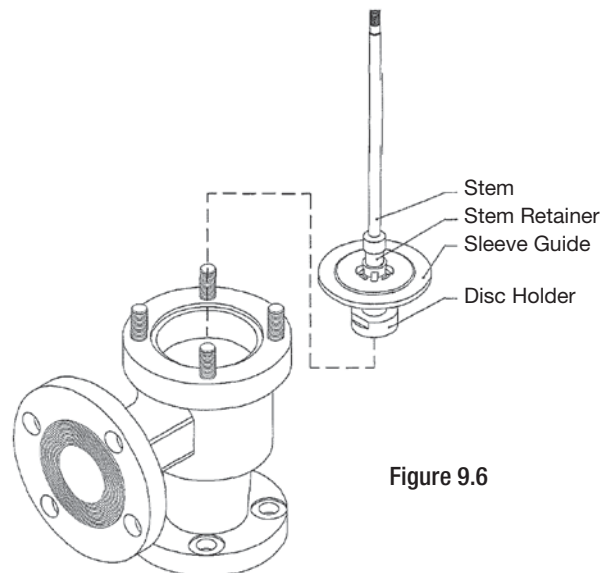

Figure 9.6
13. Lower the **Assembly** (**Stem** [9], **Sleeve Guide** [8], and **Disc Holder** [6]) into the **Body** [1] counter-bore. (**Figure 9.6**)